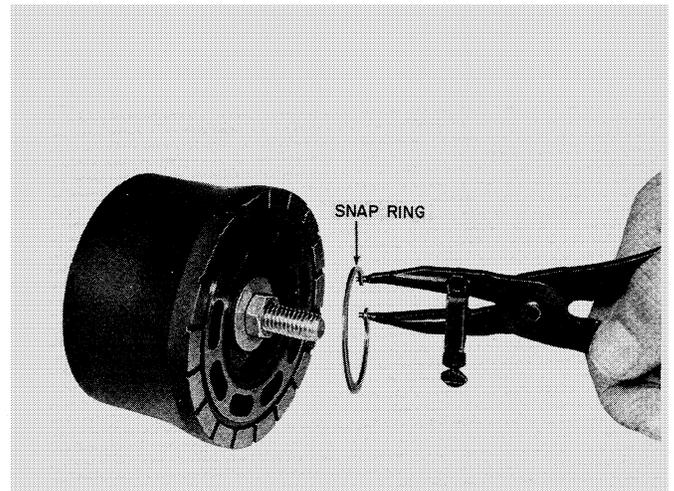

FIGURE 21
11. With the spring compressed, remove the snap ring from the cylinder block with snap ring pliers, see Figure 21. Then relieve the tension of the spring by unscrewing the nut from the bolt.